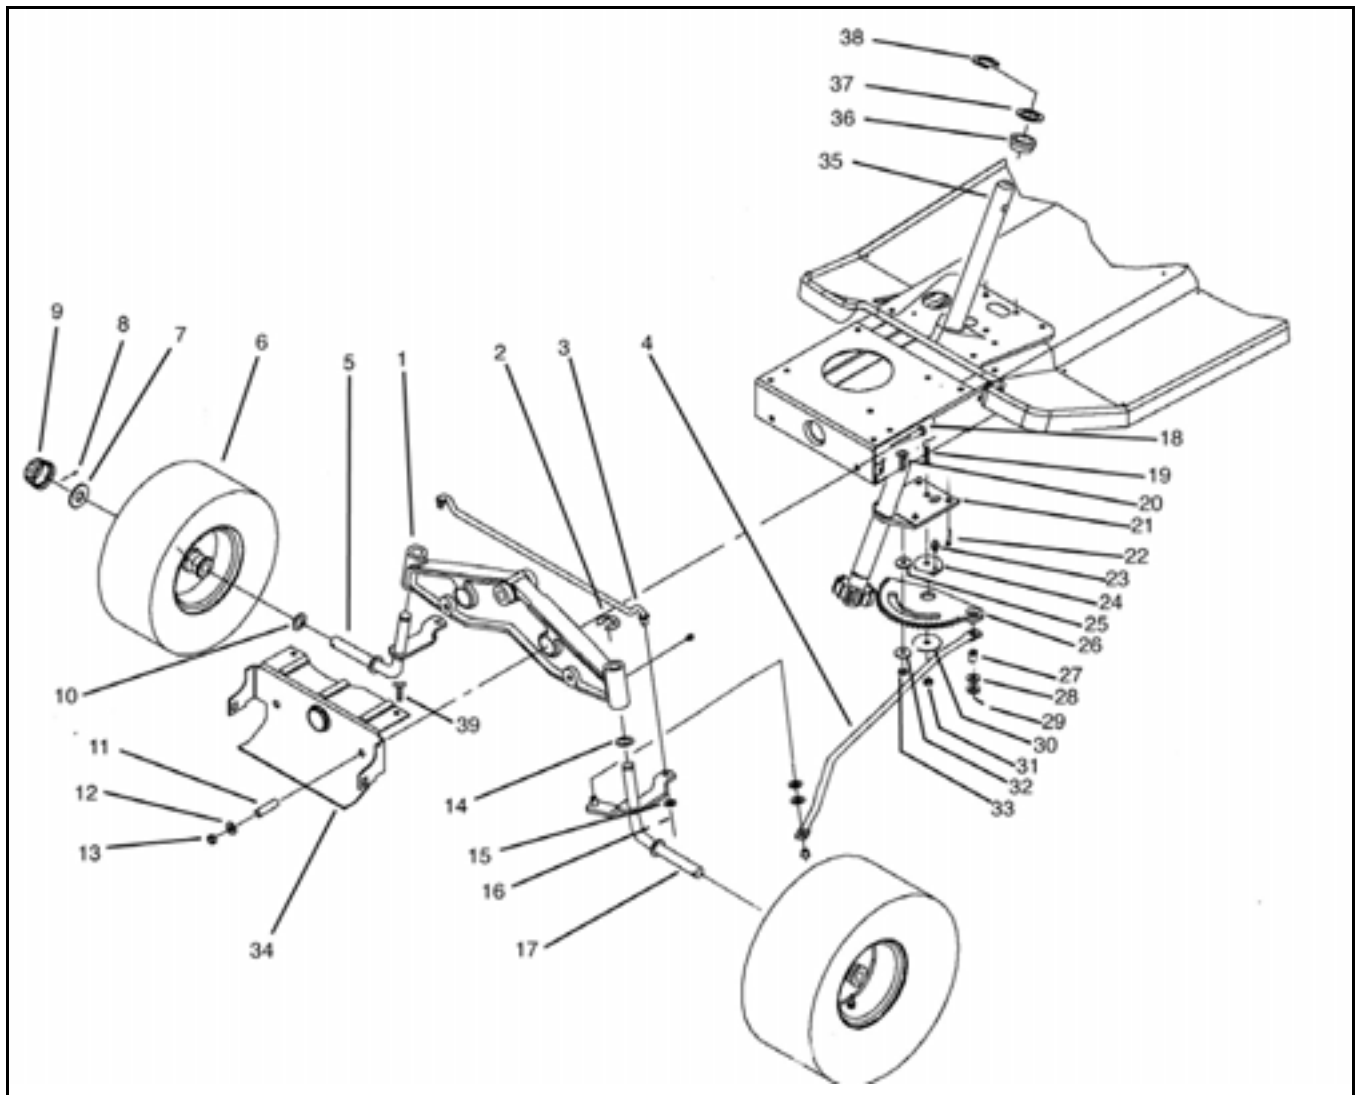

Figure 156
4. Remove the drag link (4) in Figure 156 from the left spindle by removing the cotter pin and washers.
7. Remove the tie rod steering (3) in Figure 156 by removing the washers and cotter pins.
8. Remove the right spindle (5) and left spindle (17) by removing the E-Ring (2) in Figure 156.
9. Remove the 2 screws (18), front axle spacers (11), washers (12), and nuts (13) in Figure 156.
10. Remove the two screws (39), washers, and nuts from the front axle support (34) in Figure 156.
3. Remove the E-Ring (38) in Figure 156.
4. The upper steering shaft (35) in Figure 156 should slide out from the bottom of the frame.
3. Remove the cotter pin (29), steering link bushing (27), and flat washers (28) from the drag link (4) in Figure 156.
4. Remove screws (19) and (20) from the steering rack (26) in Figure 156.
Note: Before tightening the lock nut (31), make sure the bushing eccentric (24) is turned so the steering rack (26) is up against the steering shaft pinion (35) in Figure 156. The zerk (23) is used to hold the bushing eccentric and then tighten locknut (31) in Figure 156. Add a small amount of grease through the zerk. It is suggested a little grease should be added between the steering shaft pinion (35) in and the steering rack (26) in Figure 156).